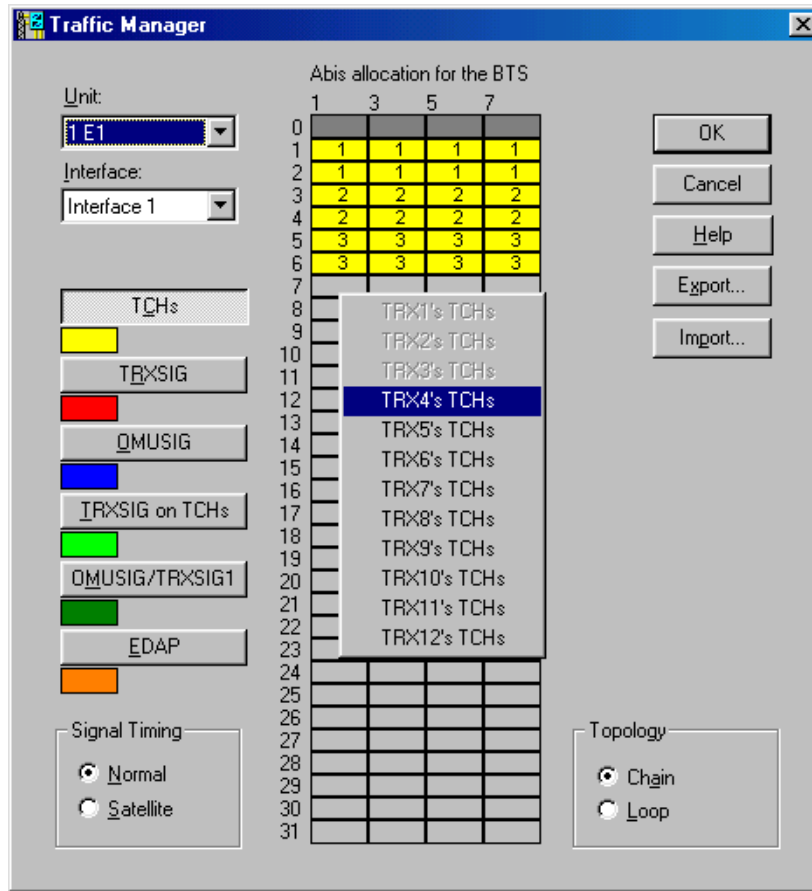

Figure 16. Allocating transmission capacity to TRXs
2. Click the TCHs button and then click in a cell in the '*Abis TS Allocation for this BTS*' table to allocate time-slots. Repeat this step to allocate transmission capacity to all TRXs in the BTS. See Figure 16 for an example of allocating transmission capacity to a TRX.